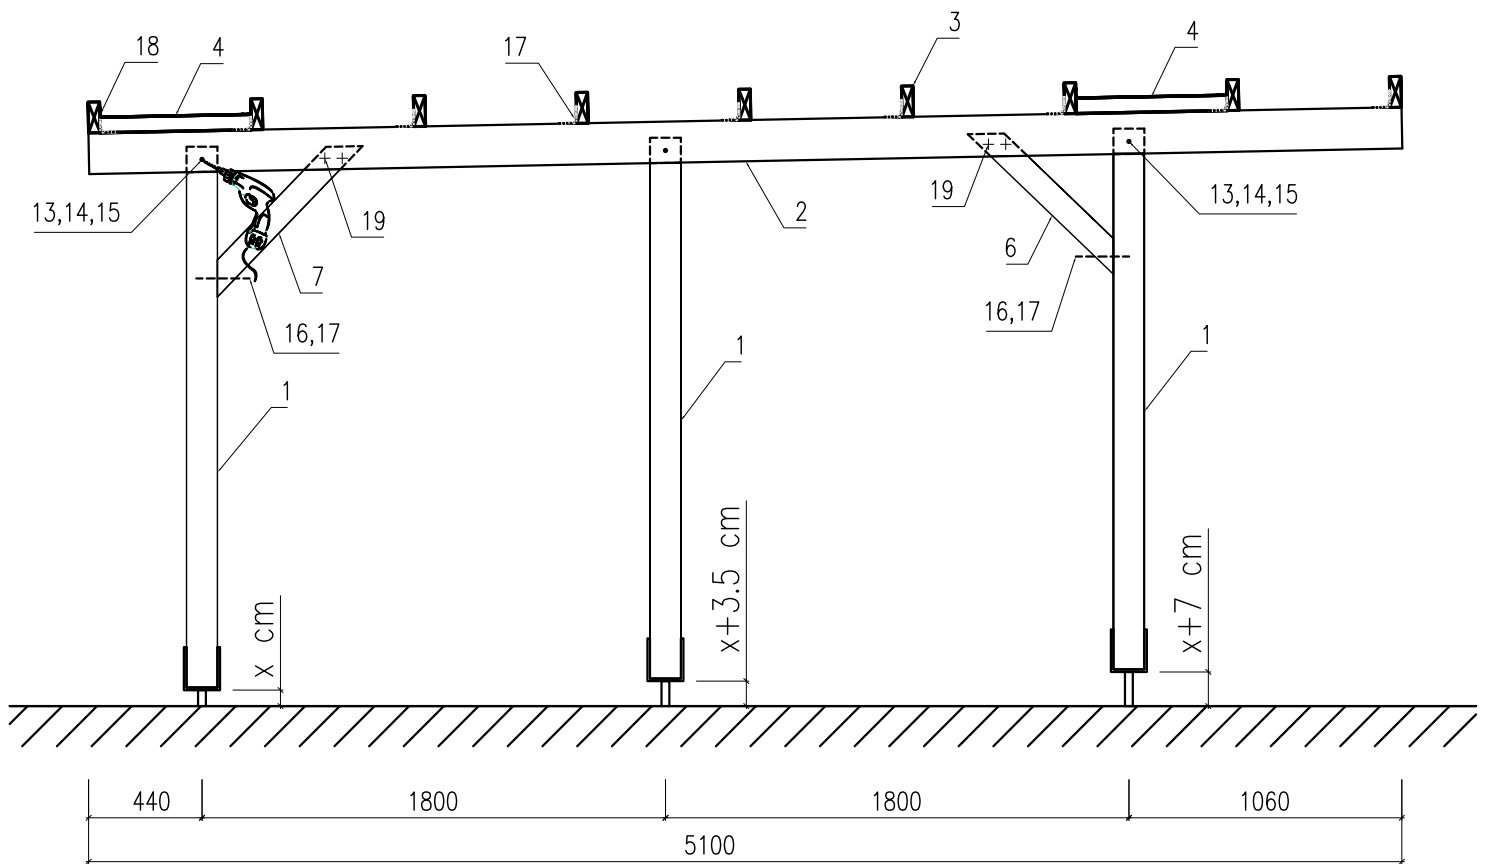
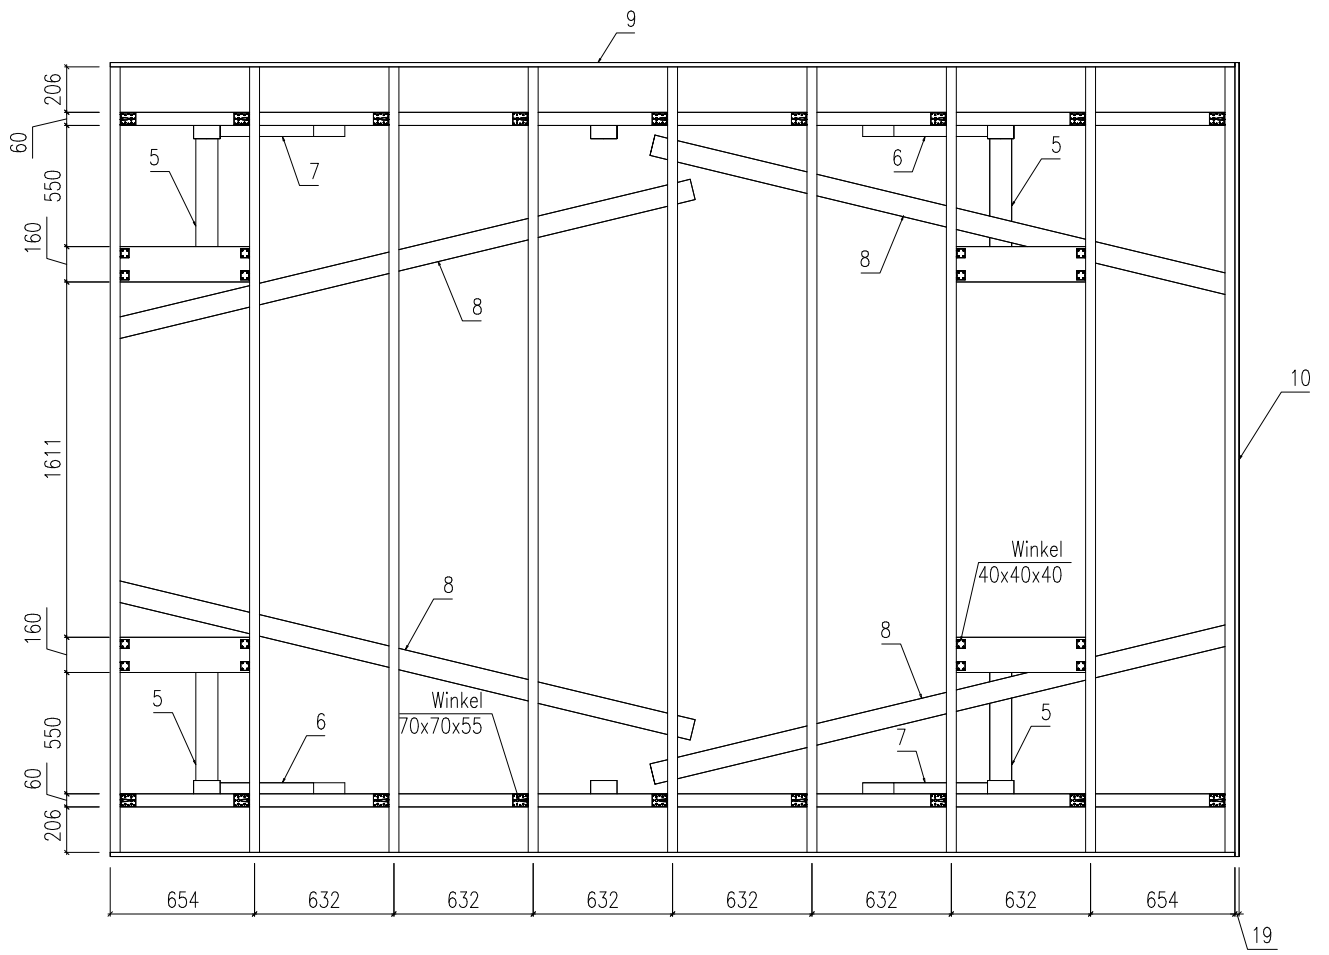

Fig. 2
Fig. 3
- a) by placing the beam support brackets at different heights (see Fig. 2)
Position the rafters (Pos. 3). See the distances from Fig. 3. Fix the rafters with squares (Pos. 19).
Then install the support components (Pos. 4). See the location of components from Fig. 2 and Fig. 3. Fix with squares (Pos. 20).
Next, fit the diagonals (Pos. 8) to make the carport even more stable. Diagonals should be fastened with screws (Pos. 22) to the underside of the rafters according to Fig. 3.